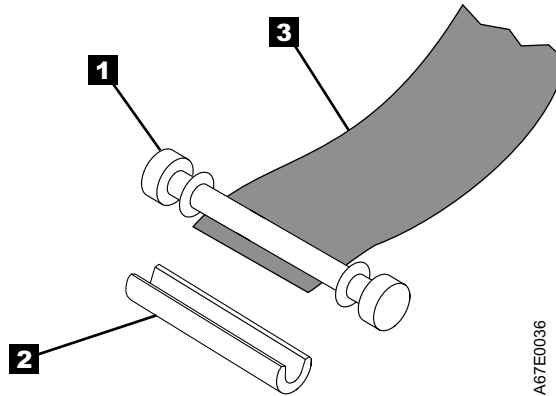

Figure 20. Removing the C-clip from the leader pin. Use your fingers to push the C-clip from the leader pin.
5. On the leader pin (**1** in Figure 20), locate the open side of the C-clip **2** . The C-clip is a small black part that will secure the tape **3** to the pin.